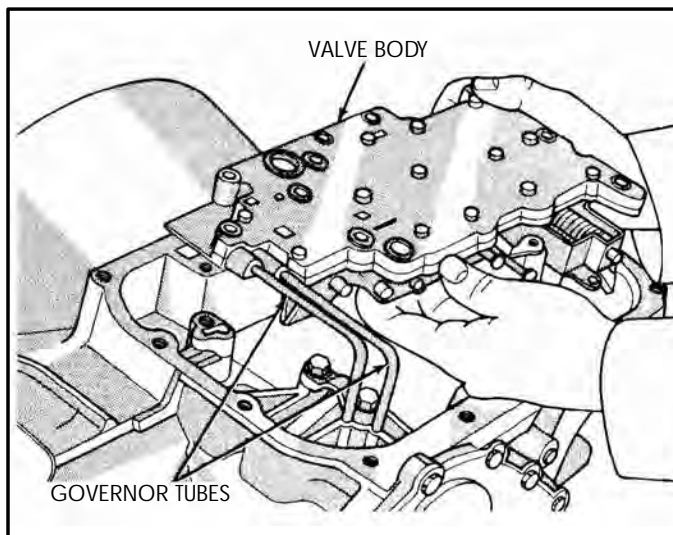

Figure 36
14. Remove the valve body and governor tubes, as shown in Figure 36, and set aside for the component rebuild section.